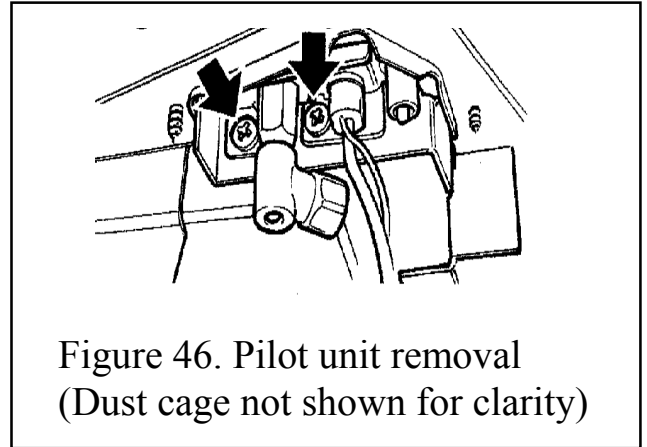

Figure 46. Pilot unit removal
5. Remove the first screw securing the dust cage to the pilot unit & burner. Carefully remove the dust cage and place aside. See figure 46.
6. Remove the second screw securing the pilot unit to the burner. Remove the pilot unit and place it aside. See figure 46.